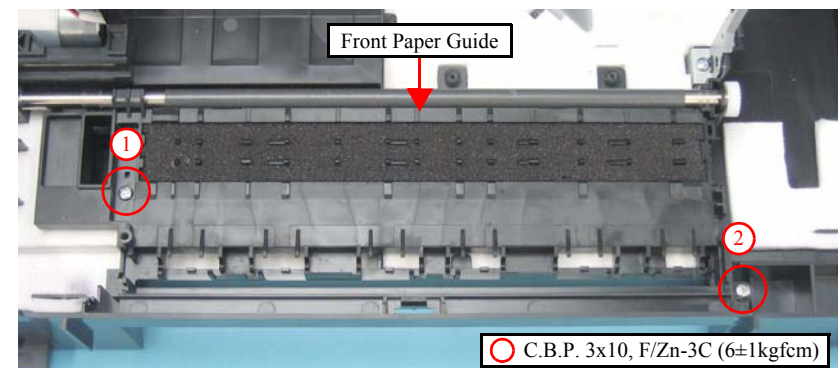

Figure 4-92. Removing the Front Paper Guide (1)
- Tighten the screws in the order given in Figure 4-92.